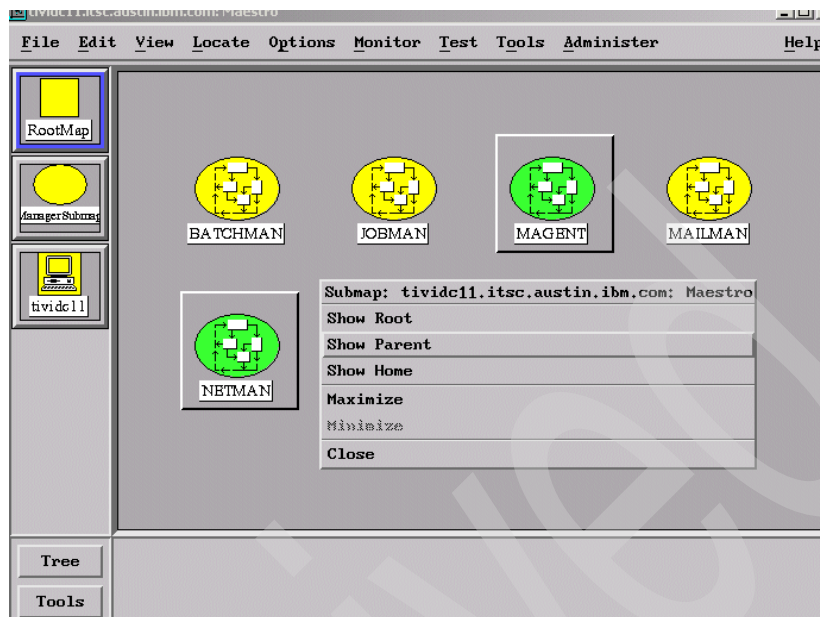

Figure 13-17 Show Parent dialog
5. To access the **start** command, you need to go up a level. The easiest way to do this action is to click the gray area on the map (not on icons) with the third mouse button or right mouse button on a 2-button mouse and select **Show Parent** as shown in Figure 13-17 on page 642.